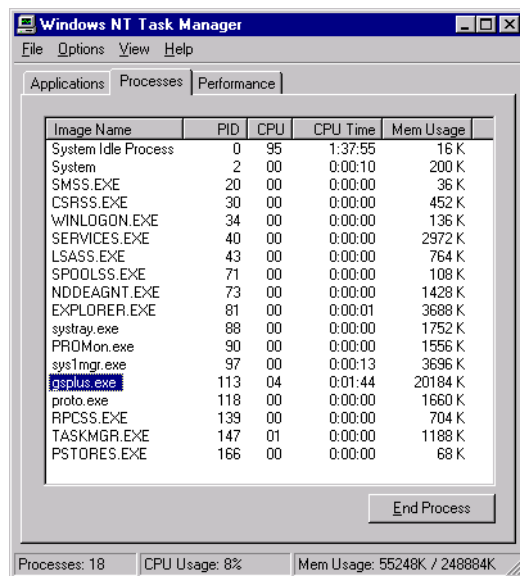

FIGURE 1-7. Processes Tab; gsplus.exe
1.21 Touch the screen at the 'gsplus.exe' file. See FIGURE 1-7.